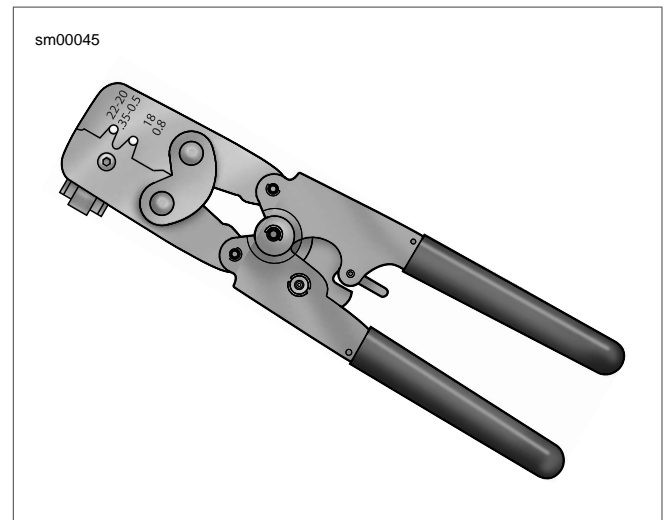

Figure A-46. Packard Micro 64 Terminal Crimper (HD-45929)
3. Locate pin hole (2) between terminals on mating end of connector.
4. See Figure A-46. Obtain the PACKARD MICRO-64 TERMINAL REMOVER (Part No. HD-45928).